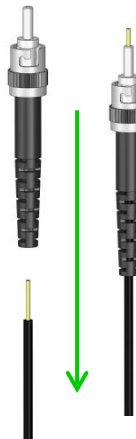

Fig 7
7. Slide the fiber into the connector hole, so it has the fiber sticking out of the connector (Figure 7).